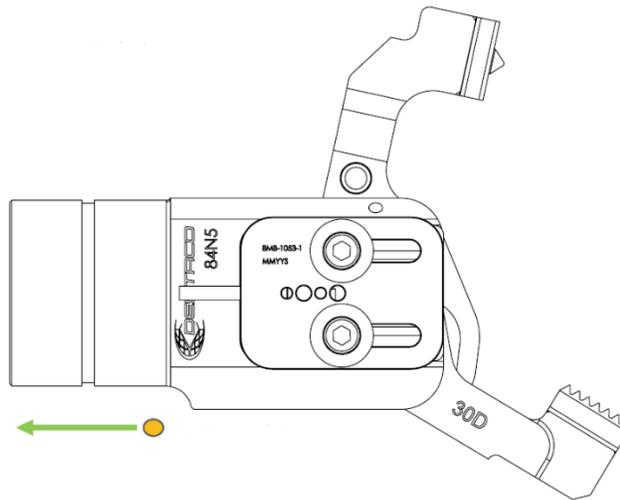

Fig.29
3. Slide the sensor carriage all the way forward (see Fig.29)